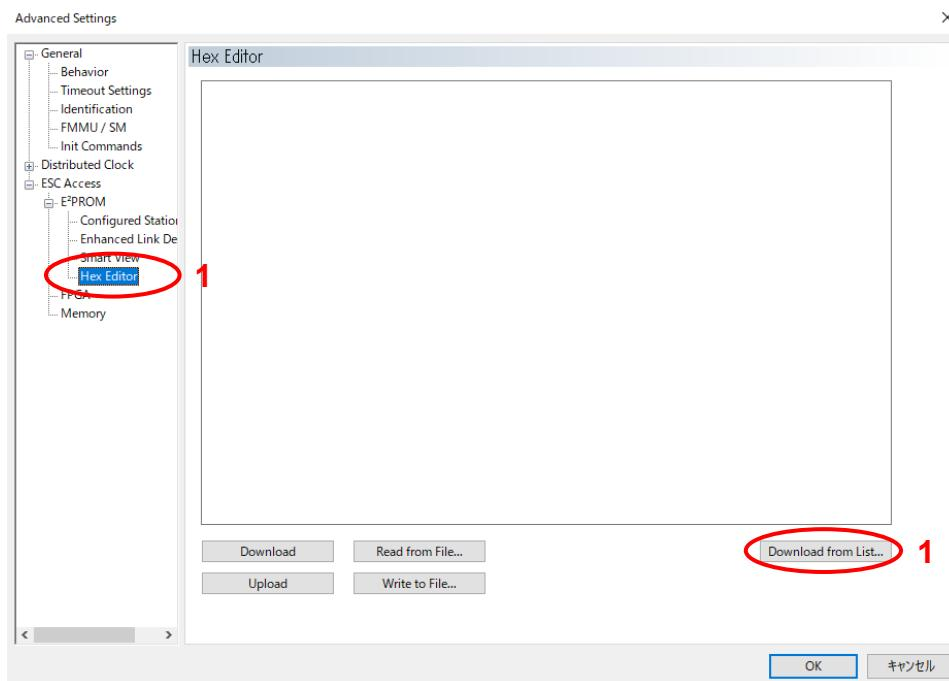

Figure 6-6 Selecting the hex editor for EEPROM file download
Then expand the list of advanced settings accordingly, so that you can select the “Hex Editor” (1). In the “Hex Editor” view click “Download from List” (2) (See Figure 6-6). This list contains numerous devices for which the required EEPROM content is ready to use.
The data is then downloaded to the EEPROM; at the end of the download process the data is automatically verified. With "Upload" (see Figure 6-6) you can check, whether the EEPROM programming was successful.